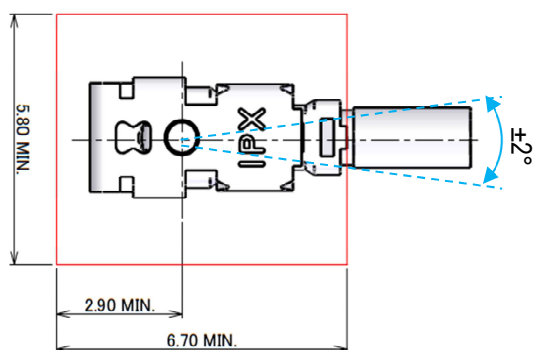
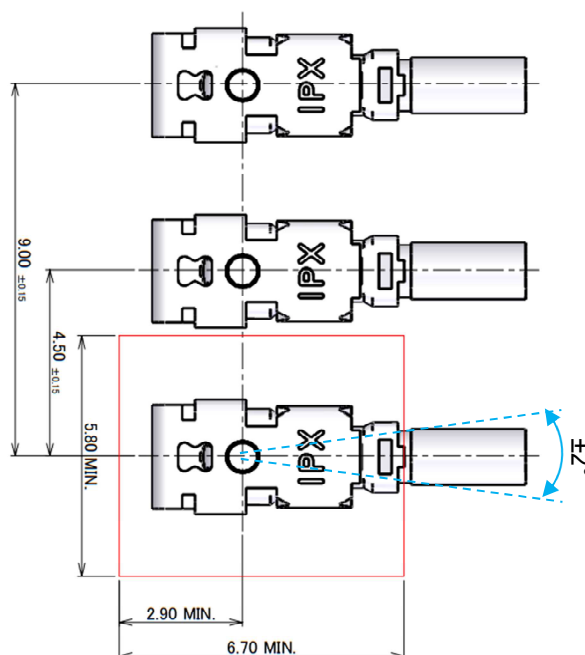

Figure 36
Figure 37
- Secure the space as shown in Figure 36 for the jig operation. Figure 37 is the layout of MHF 4L LK Harness in pitch 4.5 mm. The 4.5 ± 0.15 mm pitch layout enables jig access.